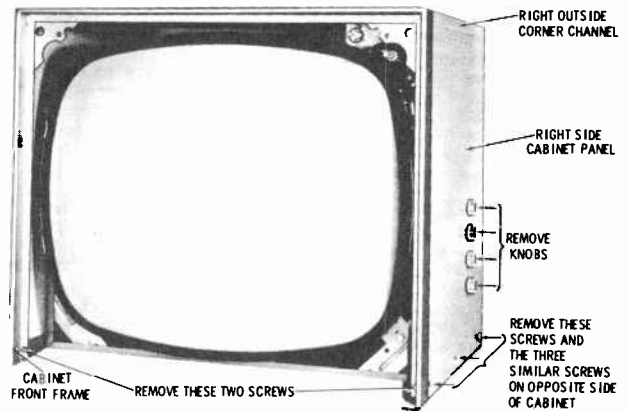
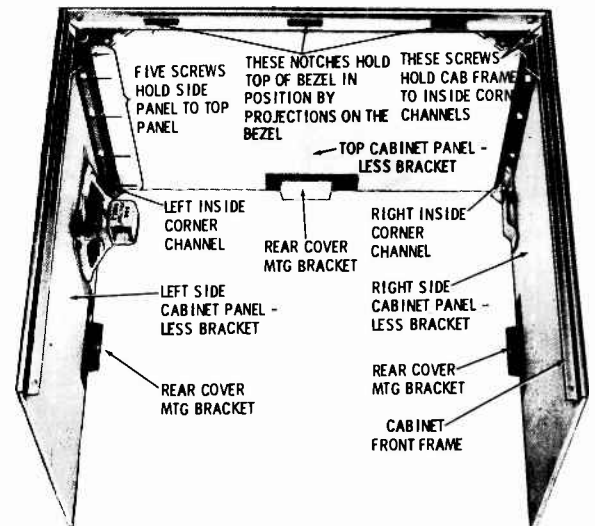

FIGURE 3C.
FIGURE 3D.
CABINET WRAPAROUND REMOVAL is completed by pulling off the side knobs and unscrewing eight (8) screws: three on each side of the cabinet side panels, and two at bottom of cabinet-front-frame. (When removing screws, avoid twisting cabinet, since this will bind screws making removal difficult.) The cabinet wraparound can now be slipped up and off of the complete chassis assembly. (See Figure 3C.)
tighten into the outside corner channels shown in Figure 3C, which match the cabinet color. The cabinet-front-frame is secured to the corner channels by four (4) screws: two in each corner channel. (See Figure 3D.)